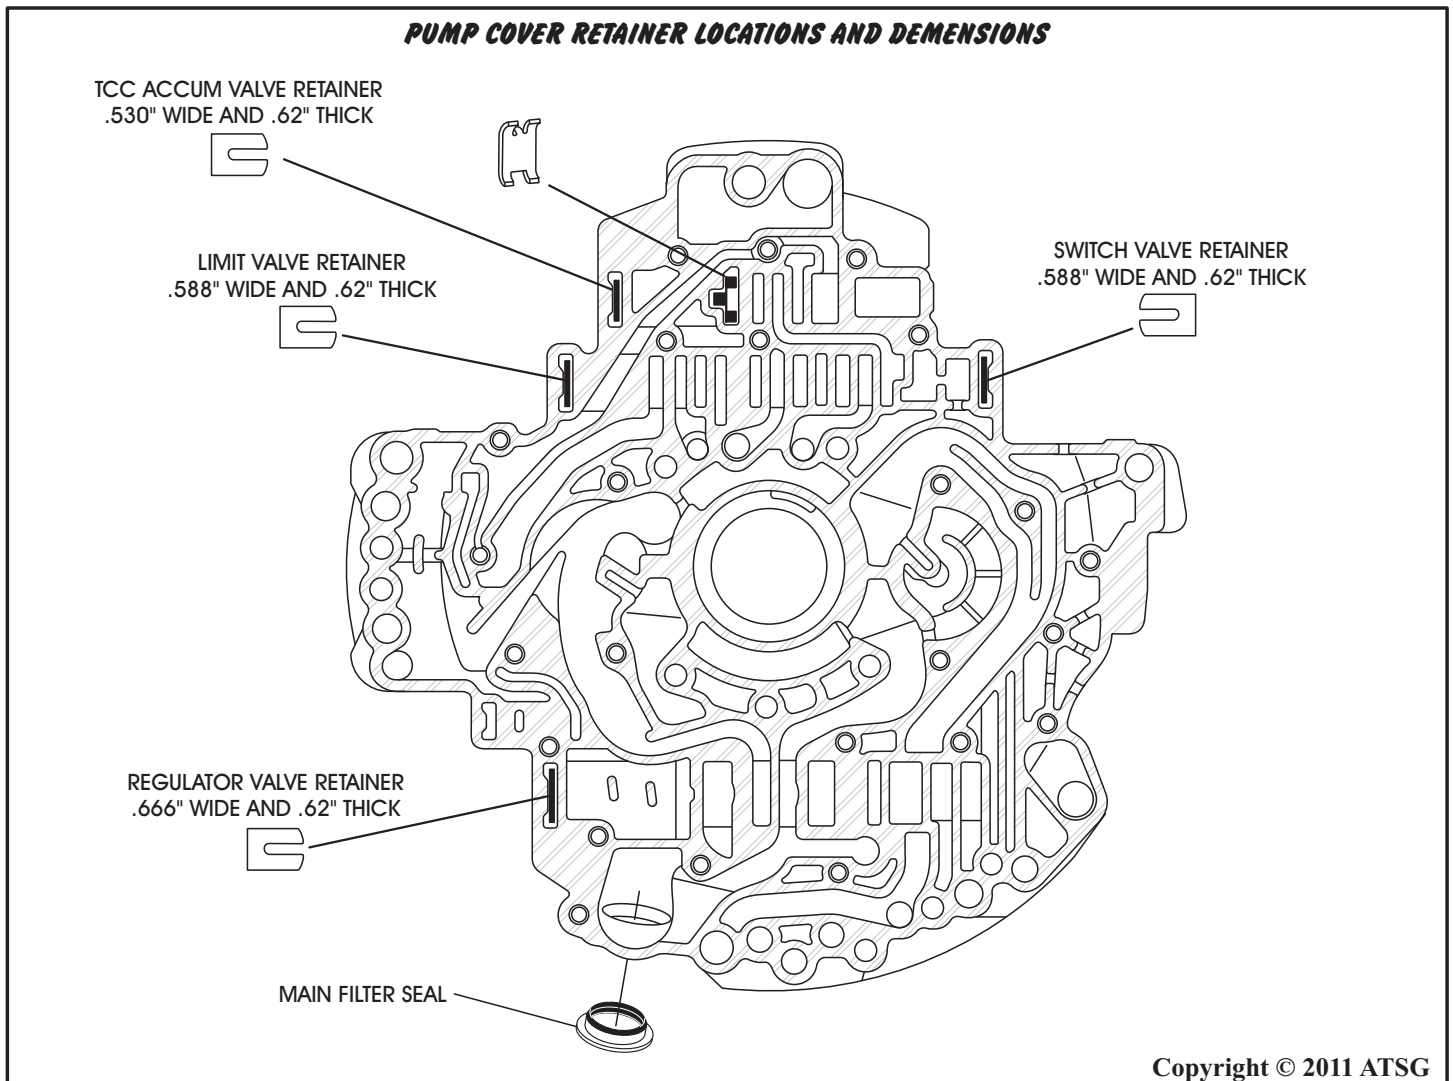

Figure 112
*Note: The valve line-up retainers are different sizes for the different locations and the sizes are shown in Figure 112, along with the exact cavity locations for the various retainers.*
7. Install new main filter seal into the oil pump cover using the proper driver (See Figure 112).